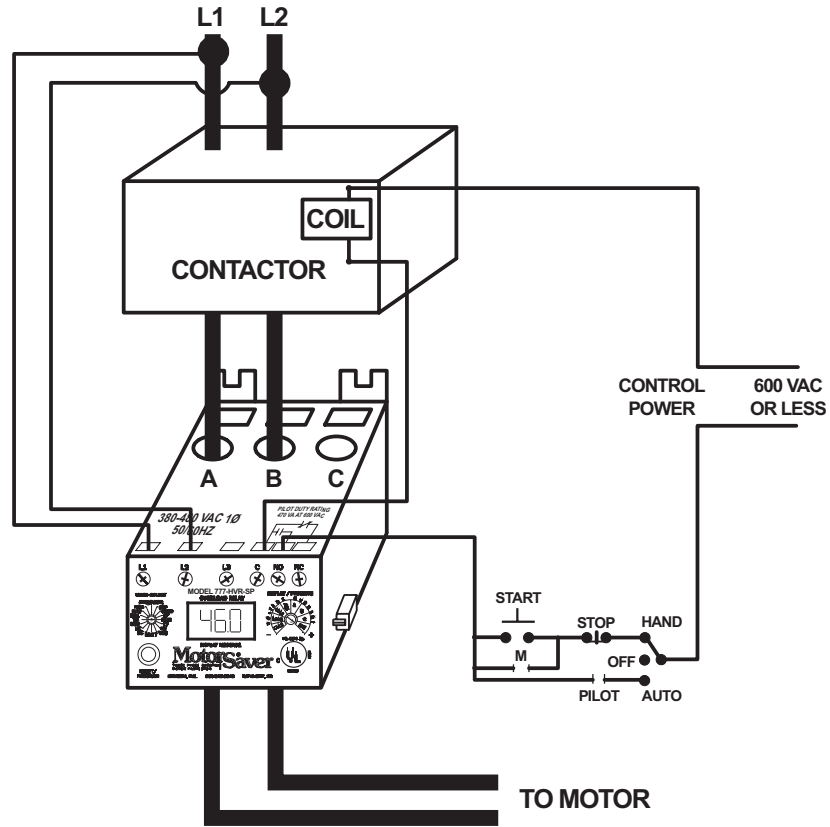

Figure No. 1: Typical Wiring Diagram
2. Insert the motor conductors through the round holes marked "A" and "B." Terminate the conductors at the line or load side of the magnetic contactor. **Note: For motors with full load amps less than 25 Amps,** loop the conductors through the holes marked "A" and "B" according to Table No. 1 below. The rectangular holes behind the holes marked "A" and "B" are provided for wire looping. (see Figure No. 1).
4. Connect the single-phase power from the line side of the contactor to "L1" and "L2." First insert a #12 - #18 AWG wire into the top of the terminal marked "L1" and tighten the screw on the front of the overload relay. Then, connect the other end of the wire to the line side of the contactor. Repeat these two steps for "L2." (see Figure No. 1).
- Connect the output relay to the circuitry to be controlled (see Figure No. 1). To control a motor, connect the normally open contact in series with the magnetic coil of the motor starter as shown. To sound an alarm, connect the normally closed contact in series with the alarm (not shown).